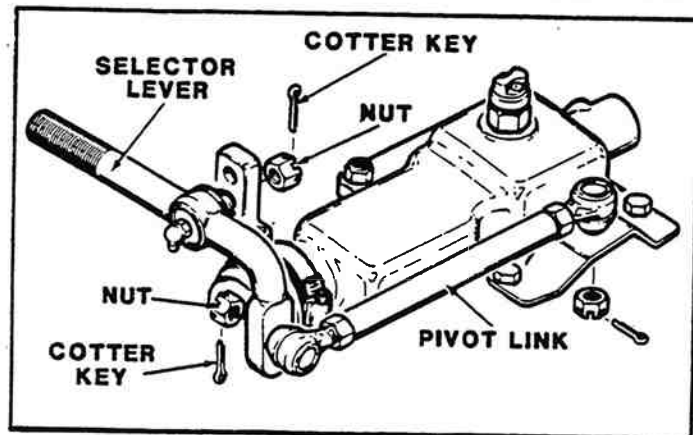

Figure 13-4. Disconnecting Shift Link.
2. Disconnect the selector rod from the shift lever and from the pivot link rod by removing cotter keys and nuts. Refer to figure 13-4. Do not disconnect the linkage at the turnbuckle